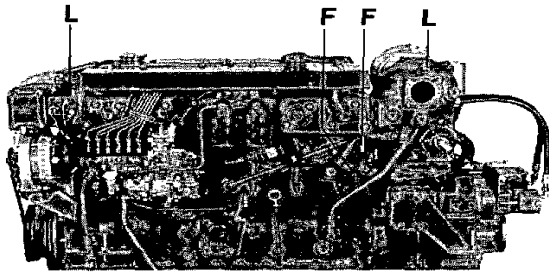

Fig. 166. Drain and venting cocks, TAMD60
**NOTE!** When filling with coolant, the venting cock on the thermostat housing should be opened on MD70, TMD70 with tubular heat exchanger, and on TAMD60 and TAMD70. The MD70 and TAMD70 engines that are fitted with plate heat exchanger have a venting cock on the rear side of the expansion tank. On TAMD60, TMD70, and TAMD70 there is also a venting cock on the turbocharger. See figs. 166–172. On the industrial engines venting takes place automatically in connection with filling the coolant, and for this reason these engines do not have a venting cock.